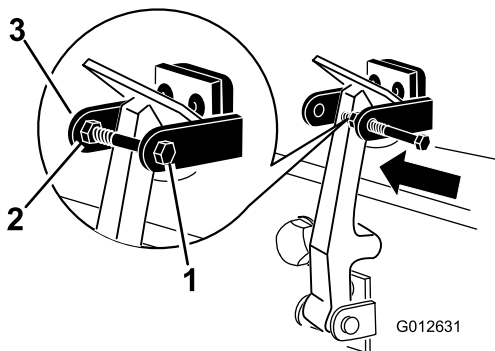

Figure 7
7. Screw the bolt into the other arm of hood lock bracket to lock the latch in position (Figure 7). Tighten bolt securely but do not tighten nut.